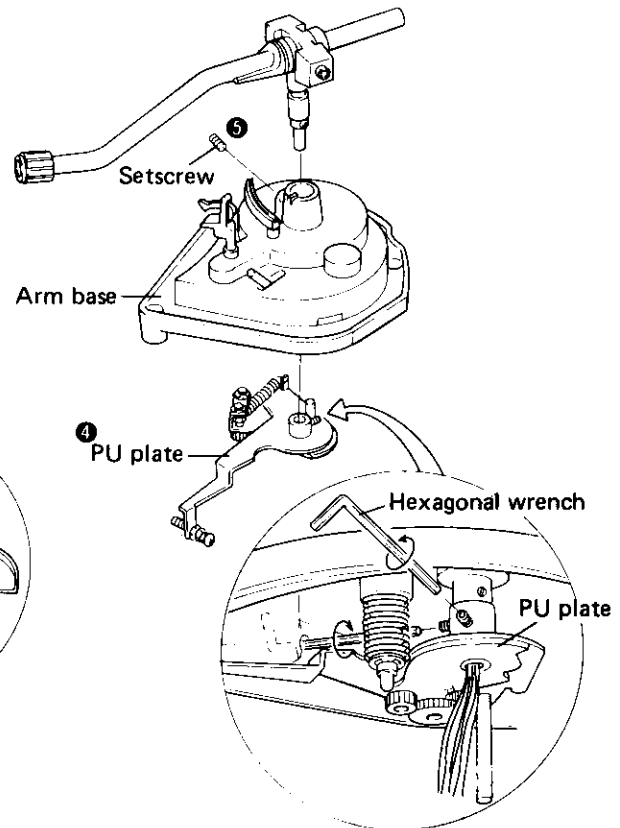

Fig. 3-3
4. Loosen the setscrews with a hexagonal wrench to remove the PU plate under the arm base (see Fig. 3-3).
5. Undo the screw securing the tonearm to the arm base (see Fig. 3-3)